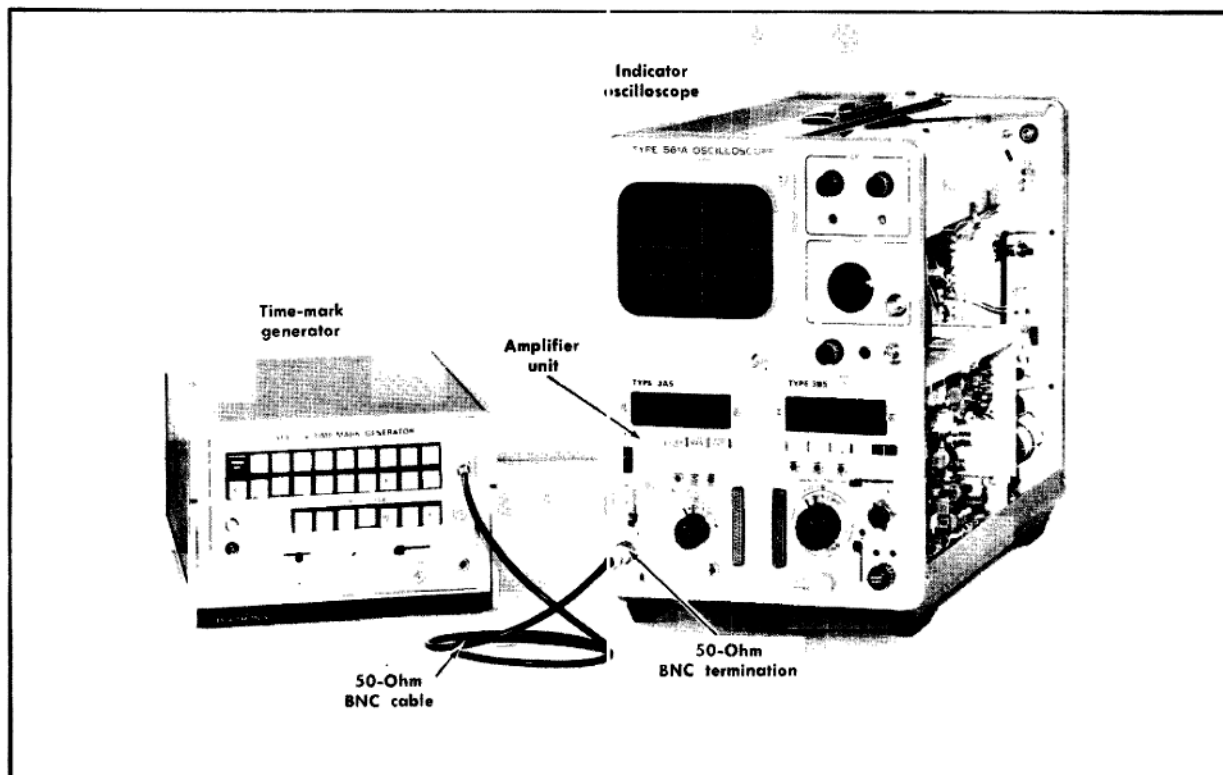

Fig. 6-7. Initial test equipment setup for steps 7—16.
①
- a. Test equipment setup is shown in Fig. 6-7.